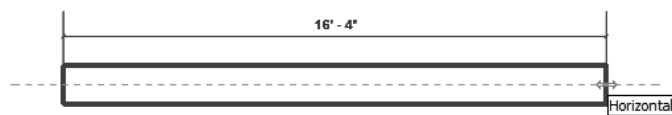

Figure 3-28 Sketching a horizontal wall segment
4. Move the cursor on the horizontal axis so that the dashed line appears at the central axis of the wall segment, as shown in Figure 3-28. Notice the two-sided arrow attached to the endpoint of the wall. This indicates that the wall segment being sketched is horizontal. A tooltip indicating the horizontal alignment is also displayed with two-sided arrow.